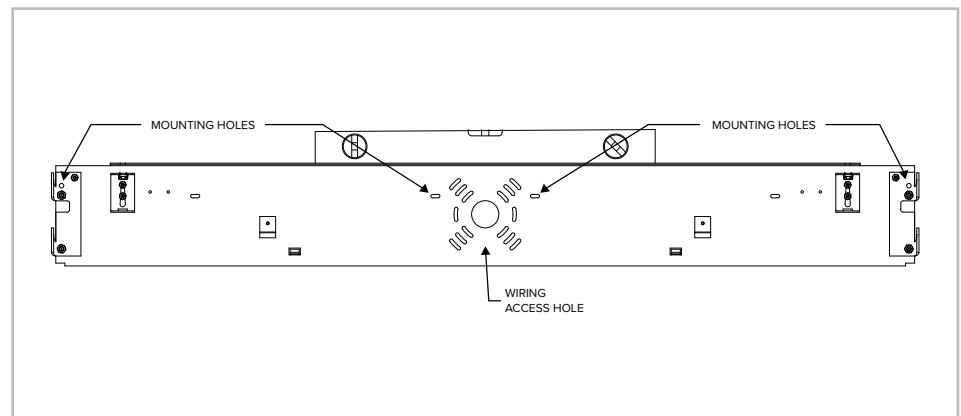

Figure 2: Back Plate Mounting
2. Position the Back Plate against the wall as shown in **Figure 2** so that wiring access hole is positioned over the electrical junction box. Use a level along the top edge of the Back Plate and adjust accordingly until the Back Plate is level.